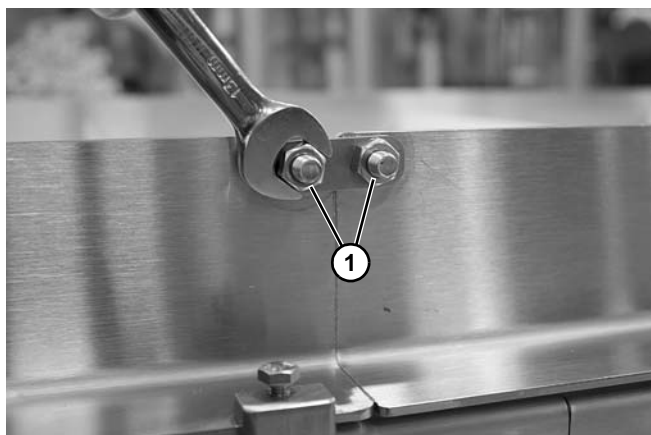

Figure 32
5. Install nuts (**Figure 32, item 1**) and tighten.